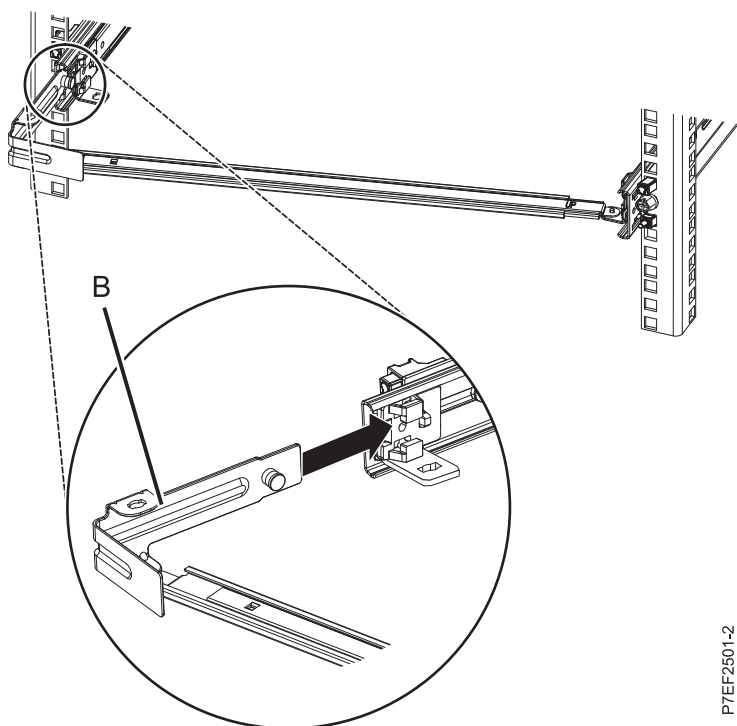

Figure 12. Extending the pin, and installing the bracket into the slide rail
4. Attach the cable-management stop bracket (**B**) to the slot on the inside of the left slide by sliding the stop bracket (**B**) into the slide rail until the spring-loaded pin snaps into place. For details, see Figure 12.